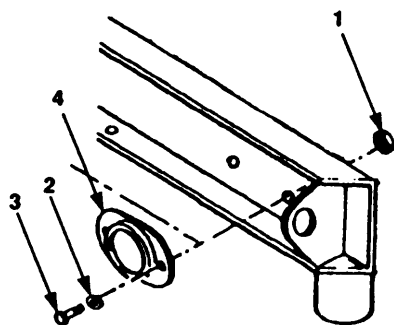

Figure 4-68. Reflector Maintenance.
- a. Remove nuts (1, figure 4-68), lockwashers (2), and bolts (3).
- b. Remove reflectors (4).